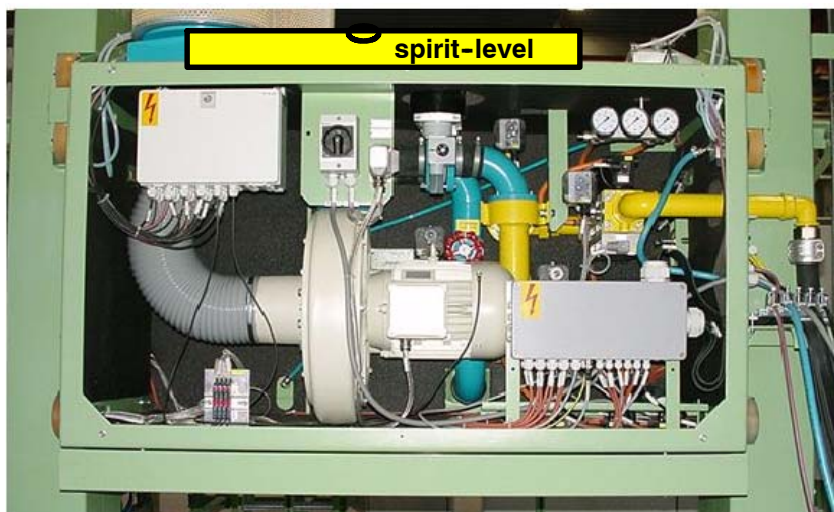

Figure 35 Check the slide for horizontal alignment
- Check that the slide is horizontally aligned. For this purpose use a spirit level once lengthwise on the slide and once across it (see Figure 35).